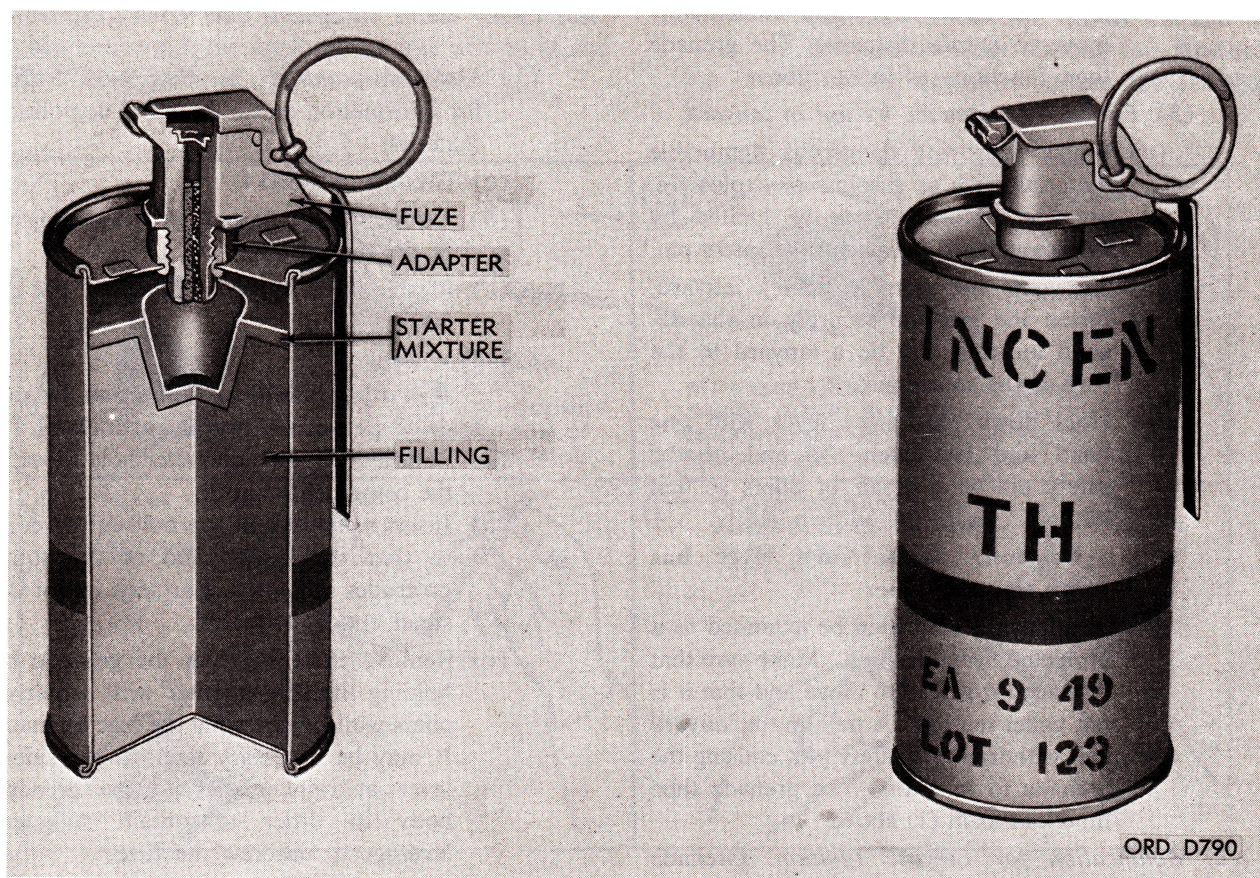

Figure 2-15. Grenade, hand: TH3, AN-M14, incendiary, w/fuze, M201A1.
a. *General.* Grenade AN-M14 (fig. 2-15) is an incendiary grenade designed primarily to provide a source of intense heat for destroying equipment. If desired, this grenade may be converted to a bursting-type munition for producing casualties. Grenade AN-M14 may be modified for electrical ignition by replacing the fuze assembly with an electric squib. These features make this grenade easily adaptable to boobytrapping techniques.
- (b) Coil the detonating cord and place it in the bottom half of the container (fig. 2-15). Replace the sleeve in the bottom of the container, thus wedging the detonating cord in place.